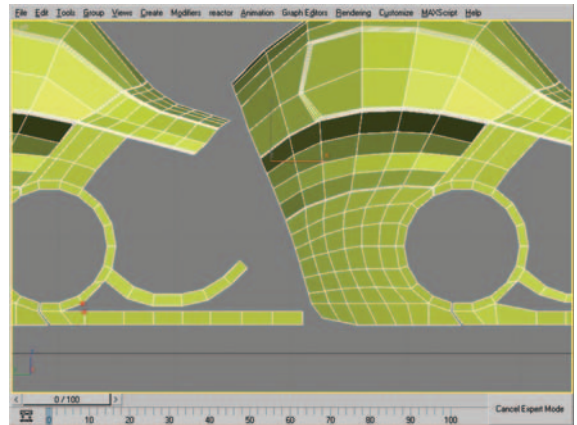

Figure 8.54 Vertices to be welded using Target Weld (left) and result of welding (right).
55. Select the lower vertex in Figure 8.54 (left) and use Target Weld to weld it to the vertex above it (Figure 8.54, right).